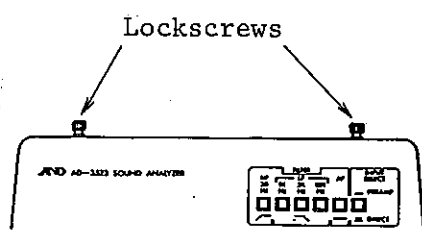

Fig. 14.2
- 2) Loosen the two lockscrews which fasten the printer paper cover. Then take the cover off. (Fig. 14.2)